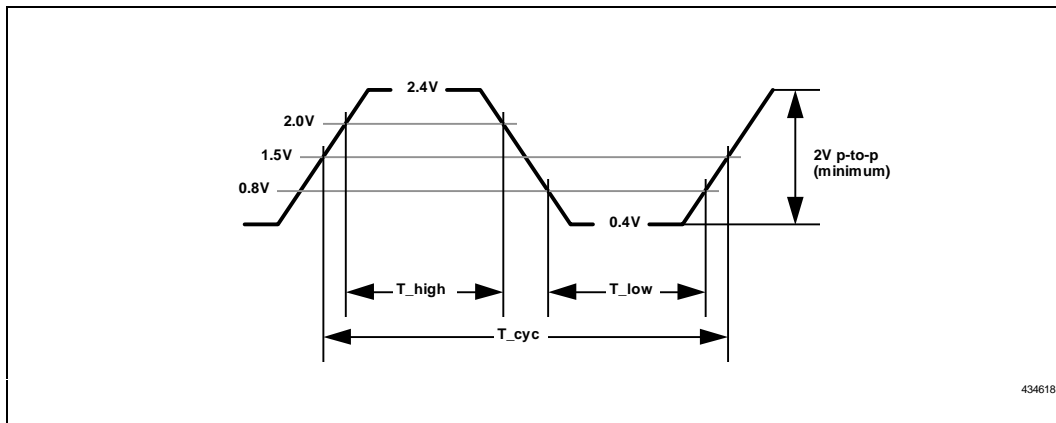

Figure 17. Clock Waveforms
The 82557 uses the PCI clock. Figure 17 shows the clock waveform and required measurement points for the PCI clock signal. Table 16 summarizes the PCI clock specifications. This clock waveform should be treated as the minimum for the 82557.
2. Rise and fall times are specified in terms of the edge rate measured in V/ns. This slew rate should be met across the minimum peak-to-peak portion of the clock waveform as shown in Figure 17.